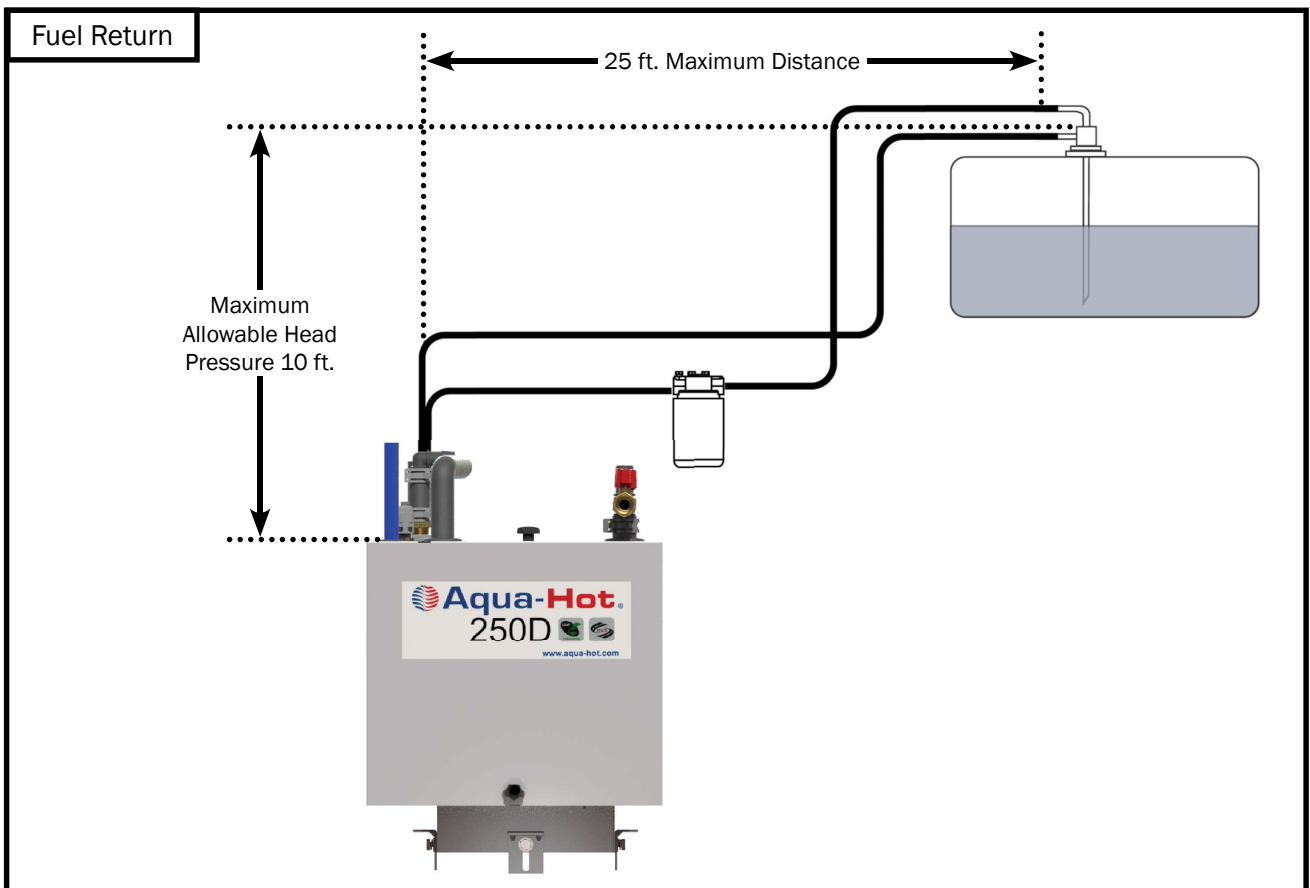

Figure 37
- The maximum allowable head pressure is 10 feet. Reference Figure 37.